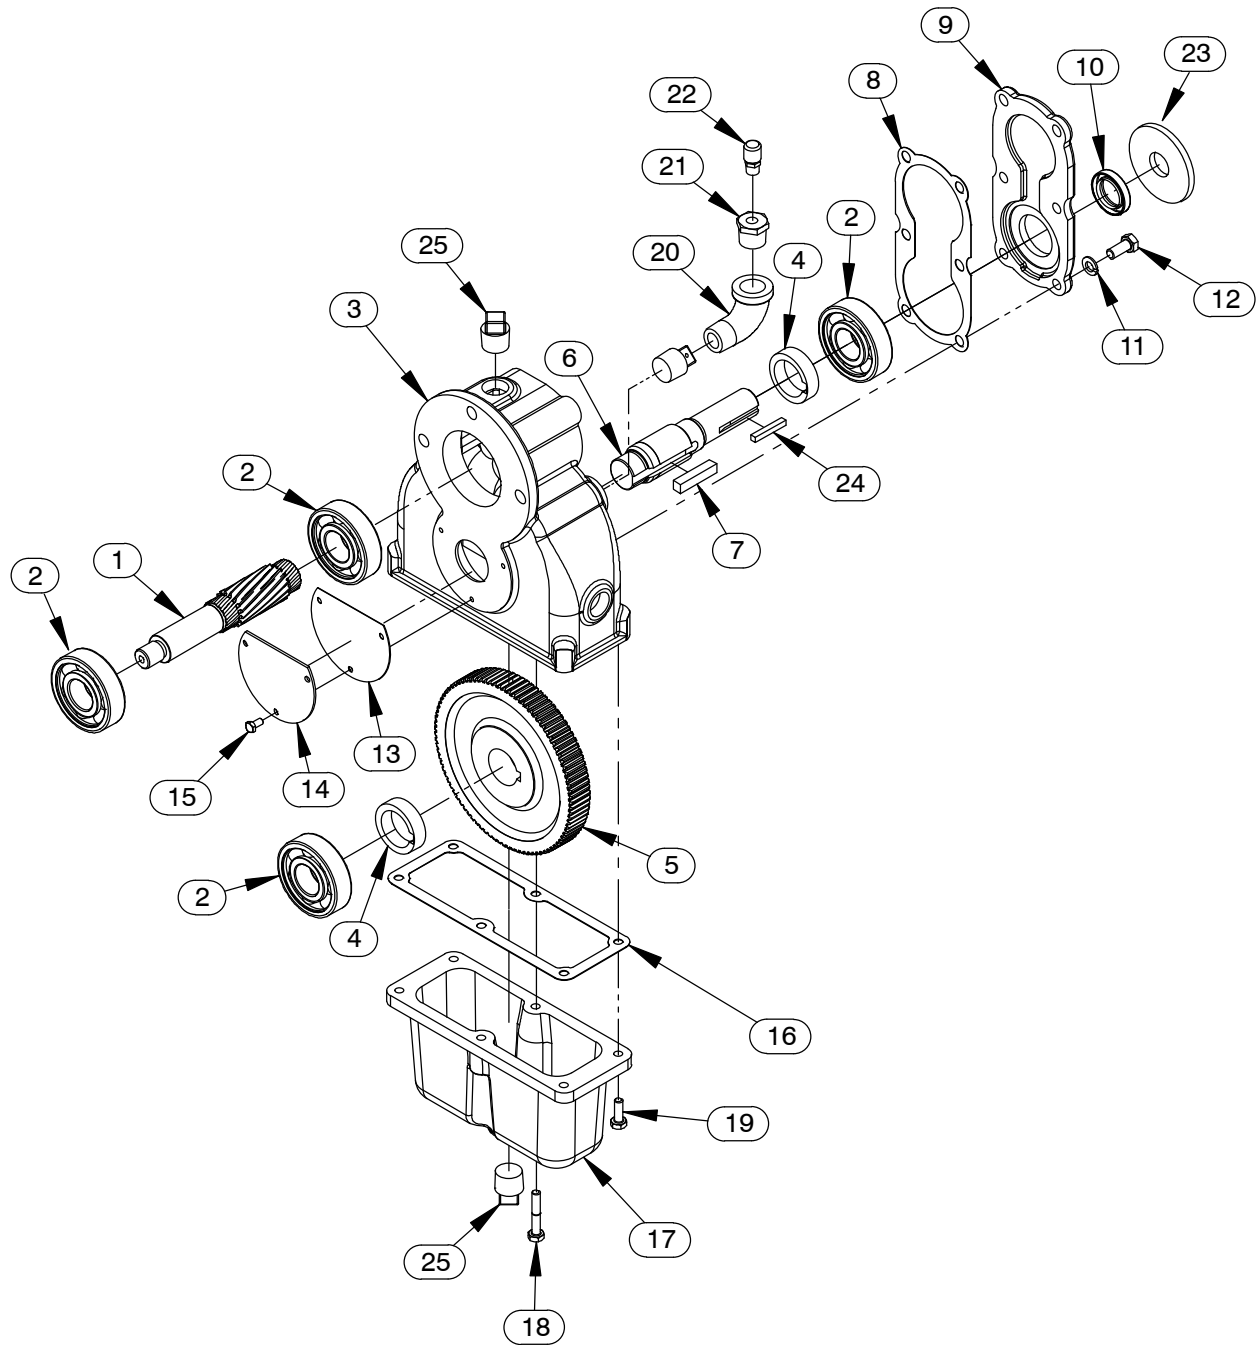
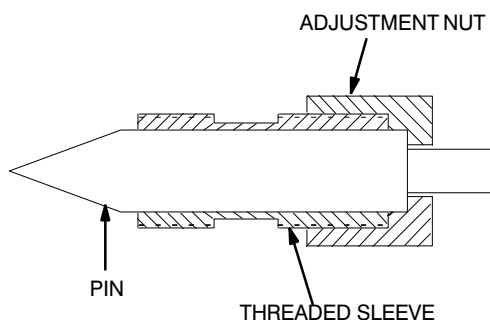

Figure 2. 44161-020 Gear Box Assembly
Figure 3. 48781-002 Gear Jam Tool
To remove the impeller, see Figure 2 and remove one of the pipe plugs (25) located in the gearbox. Screw the threaded sleeve on the gear jam tool (P/N 48781-002, Figure 3) into the pipe plug hole. Slide the pin through the sleeve until the beveled end of the pin engages the teeth of the drive gear (5). Screw the adjustment nut onto the sleeve until the pin firmly engages the teeth of the drive gear and jams rotation. Check to ensure that the pinion shaft (1) will not turn.
See Figure 2 and remove the drive shaft key (24) and slinger ring (23) from the drive shaft (6). Remove the lower most drain plug (25) and drain the gearbox lubricant. Clean and reinstall the drain plug. Disengage the hardware (11 and 12) and remove the bearing cover (9), oil seal (10), and gasket (8) from the gearbox housing (3).
*See Figure 1 and remove the hardware (7 and 8) securing the pump casing (1) to the gearbox. Use a 1-inch diameter brass rod (or wooden dowel) and a hammer to tap the shaft and assembled pump parts from the gearbox. **Be careful** not to damage the outboard pinion shaft bearing (2, Figure 2) while*
If the pump casing, oil seal (4) or gearbox assembly (9) requires replacement, the casing must be separated from the gearbox housing (3, Figure 2).